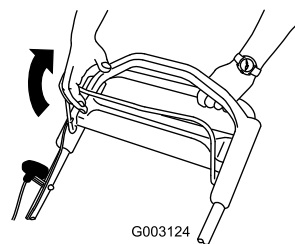

Figure 13
2. Pull the blade control bar to the handle (Figure 13).